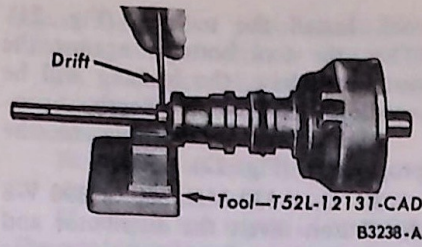

FIG. 17 Removing or Installing Collar Retaining Pin
13. Remove the shaft collar roll pin (Fig. 17).
5. Remove the distributor from the press and remove the support tool. Install the collar retaining pin (Fig. 17) and the gear retaining pin (Fig. 15).